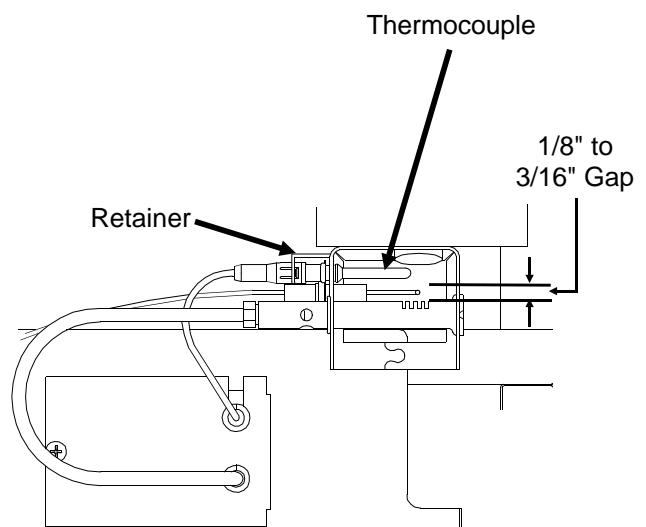

Figure 14
### Burner Assembly-Figure 14
21. Insure the burner slots are centered under the flue tube and the ignition electrode and thermocouple are properly located (See Figure 14).